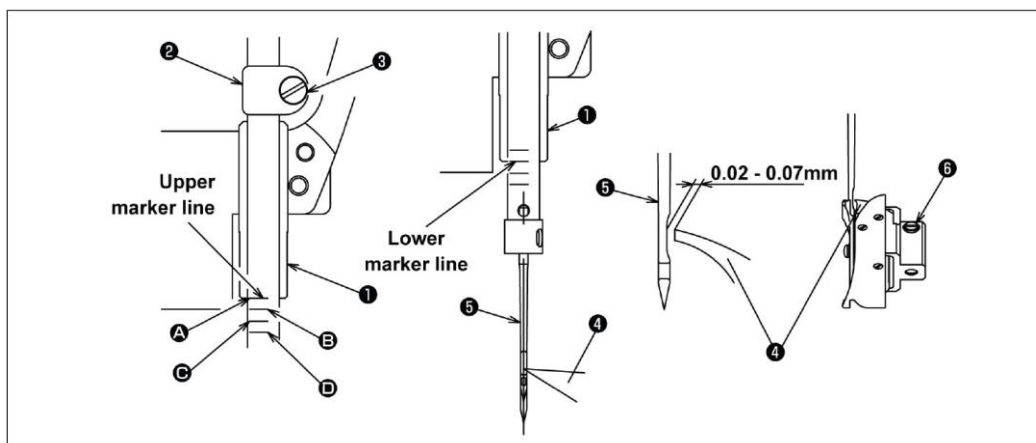

Fig.23
Tighten needle bar connection screw (3) in needle bar connection (2) so that the marker line of the needle bar aligns with the bottom end of needle bar lower bushing (1) at the lowest position of the needle bar. Fourth line „A“ from the bottom is for 134R needle, second line „C“ from the bottom is for 135x17 (DPx17) needle. See fig.23.
Adjust so that the specified market line (third line „B“ from the bottom is for 134R needle, line „D“ at the bottom is for 135x17 needle) on the ascending needle bar aligns with the bottom end of lower bushing (1). Further adjust to make hook point (4) nearly meet the centre of needle (5) and adjust the clearance between needle (5) and hook point (4) to 0.02 to 0.07mm. Then tighten hook screw (6). To adjust the hook remove the throat plate first. Loosen hook setscrew (6) with a screwdriver and adjust the hook position from the throat plate side. See fig.23.